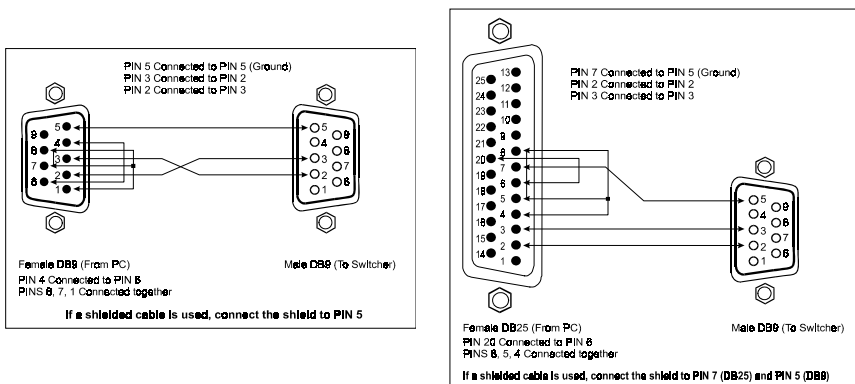

Figure 2: Connecting a PC without using a Null modem Adapter
- Connect the RS-232 DB9 port on your PC to the RS-232 DB9 rear panel port on the Master **VS-1202YC** unit, as Figure 2 illustrates (depending on whether the PC has a 9-pin or 25-pin connector)